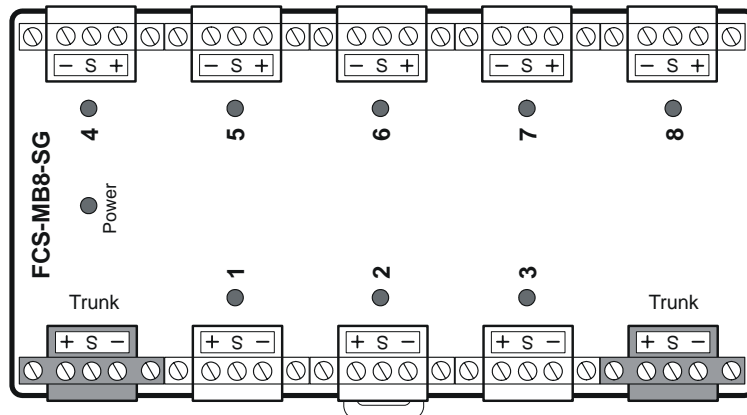

Figure 3 Megablock Spur Guard for 8 Devices
The Relcom Megablocks with SpurGuards (SG) connect field devices to the fieldbus segment cable and provide short circuit protection to the segment. Figure 3 shows an FCS-MB8-SG for eight devices. The Megablock mounts on a DIN rail and requires a connection to a terminator (+, -, and S) from one of the trunk connectors. To connect multiple Megablocks together, use a short jumper cable between the trunk connectors on the Megablocks.
Refer to Figure 3 on page 1-7.